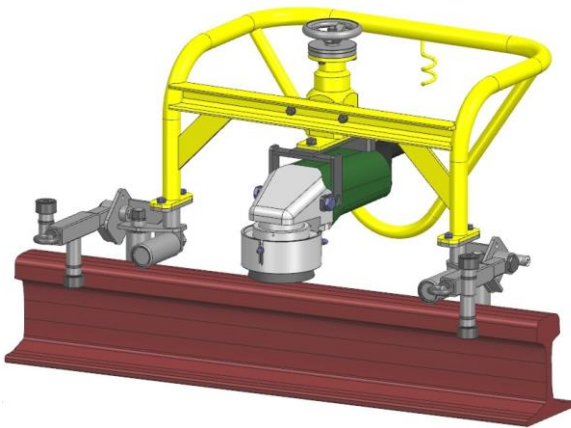

Fig. 3: Grinding the rail surface
- with double rollers and idler rollers for flange rails (Figs. 3 and 4)
6. Grinding of flange rails (Figs. 3 to 6)